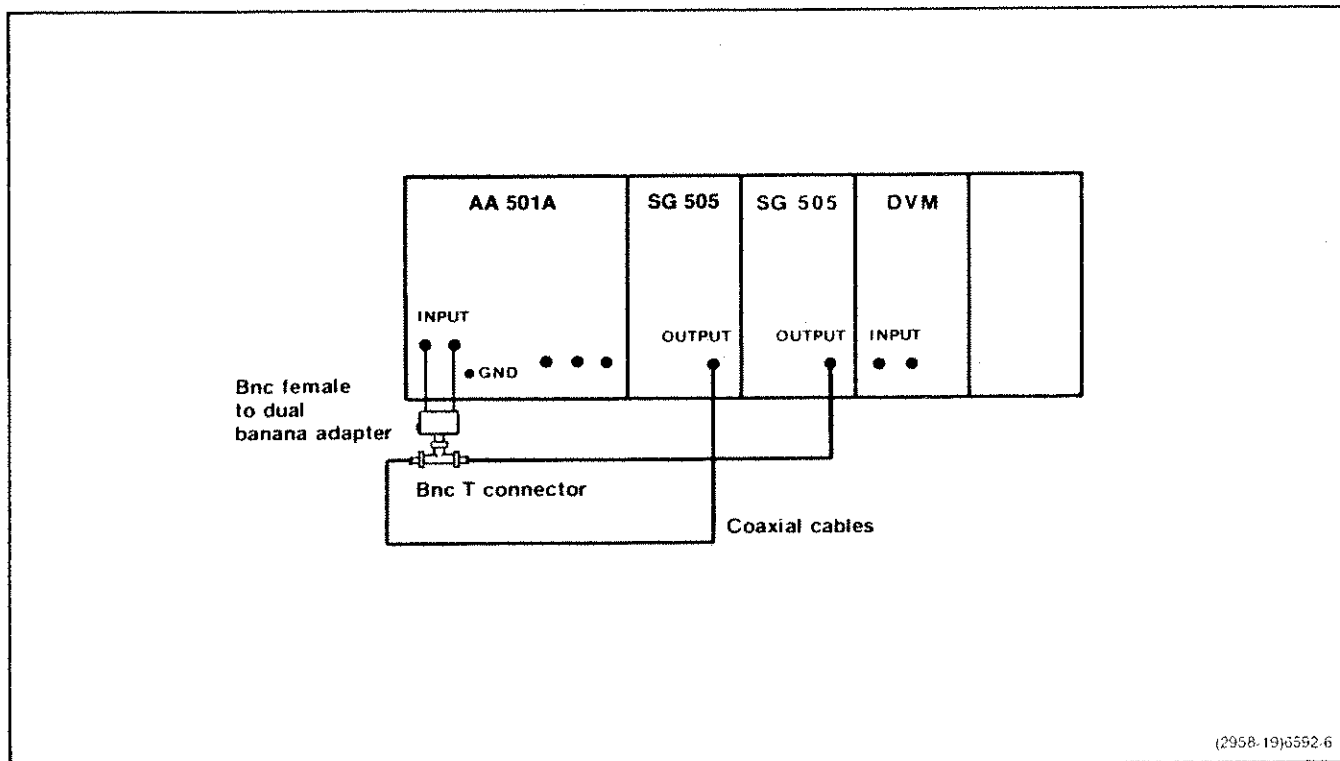

Fig. 4-5. Total harmonic SMPTE and CCIF distortion and CCIF residual IM distortion check/adjust.
a. Connect the test equipment as shown in Fig. 4-5.